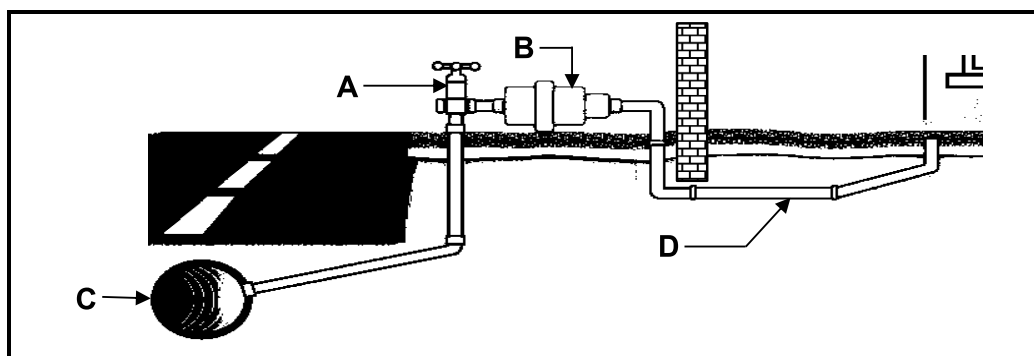

FIGURE 4.1
4.1 FIGURE 4.1 shows a diagrammatic representation of the water supply system to a house. Answer the following questions about the system.